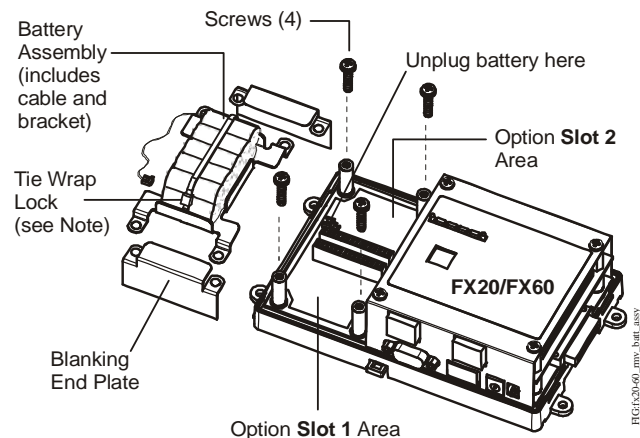

Figure 3: Remove Screws and Battery Assembly
3. Remove the battery and bracket assembly by taking out the four screws holding it in place. Set the screws aside for later. Unplug the battery from the connector on the FX20/FX60/FX70 Supervisory Controller. Figure 3 shows an exploded view of an FX20/FX60.
Note: The tie wrap on the battery pack should have its lock knot on top, as shown in Figure 3. If not, cut and remove the tie, then reinstall another tie wrap with the lock tab on top. (If the tie lock is at the bottom, it interferes with the option card.)